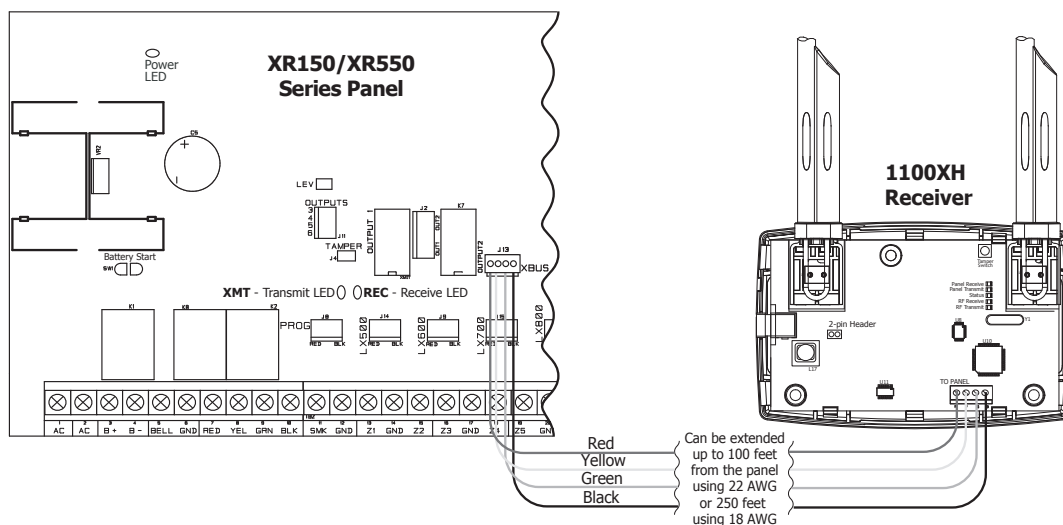

Figure 3: Harness Connection
- Verify that the panel XMIT and REC LEDs alternately flash on and off at a rate of 1/4 second each. If the LEDs are On steady or Off, the panel and receiver are not communicating properly. (See Figure 3 and 4).